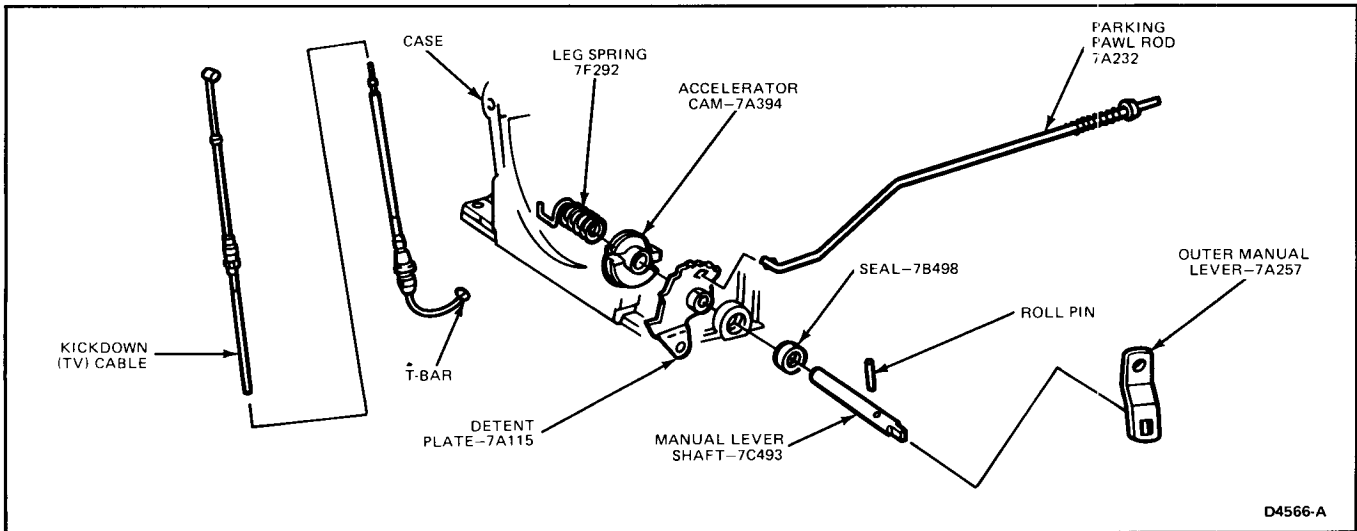

FIG. 16 Accelerator Cam, Parking Pawl Rod and Selector Linkage—Exploded View
Refer to Fig. 16.
- Disconnect and remove the outer manual lever (Fig. 16).
- Disconnect the T-bar end of the kickdown cable from its seat in the accelerator cam (Fig. 16).
- Pull out the shaft to remove the leg spring, cam and detent plate (Fig. 16).